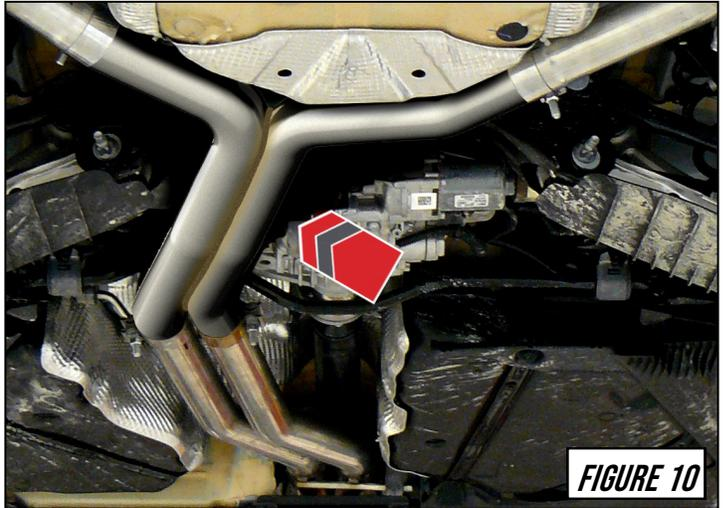

FIGURE 10
Place two (2) 2.5" Accu-Seal clamps over the inlets of the Sportback axle tube (part A31) and install onto the x-pipe section, as shown by arrow in **Figure 10**.